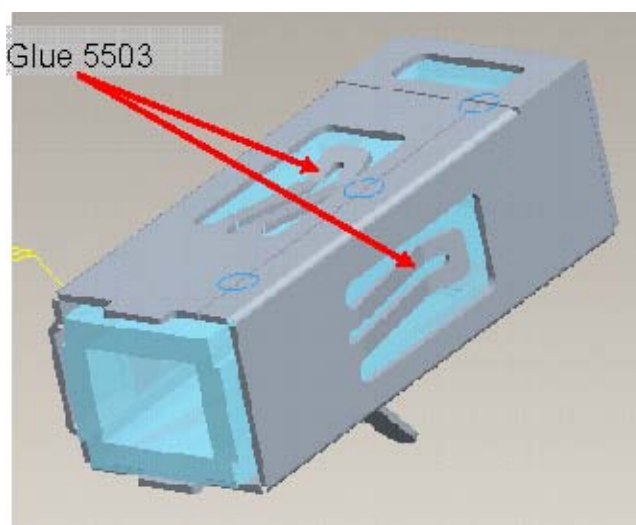

Figure 4-3
4.3 Glue “LP” and “BKT_LP” with “UV5503 Glue” at two opening of “BKT_LP” show in Figure 4-3 ◦
- vii. The UV-glue must fill up the whole opening area (shown in Figure 4-3) to contact well with LP surfaces and BKT_LP.